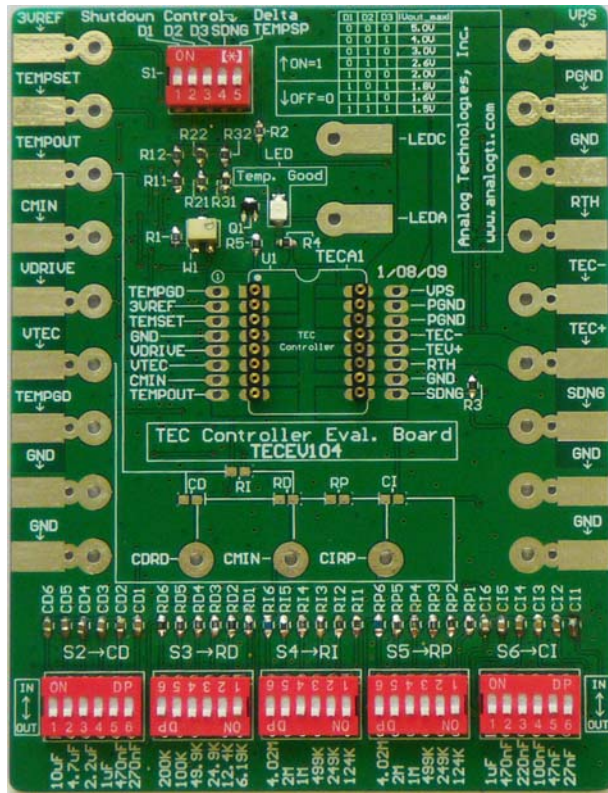
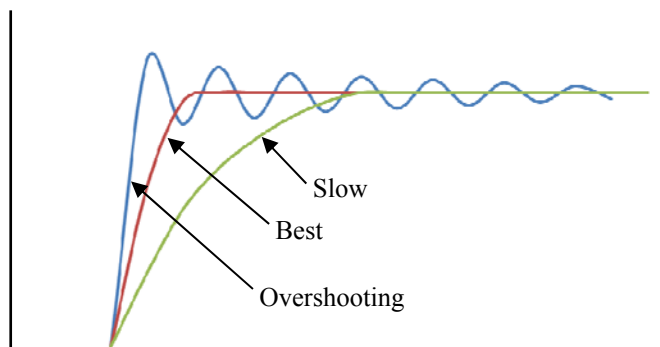
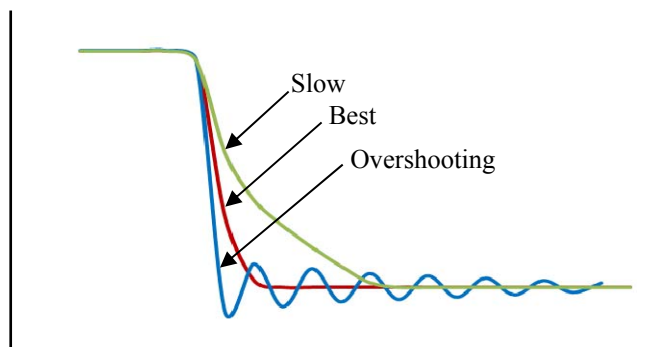

Figure 1. The Physical Photo of TECEV104
Figure 8. Rise Waveforms of VTEC
Figure 9. Fall Waveforms of VTEC
Its photo is shown in Figure 1. The TEC controller module is located in the center of the TECEV104 Evaluation Board. The voltages of all its pins can be measured directly by probing the vias on the left and right side of the module sockets which are connected directly with pins of the electronic module. Some of the pins are also connected to the soldering pads with two vias on the edges of the board. The names of all these nodes are marked on the board.
There are solder pads on the left and right edges of the board. These pads can be used for connecting the external instruments or components with and the connections can be made by soldering wires, clipping by alligator clips or probing by probes. See Figure 1, 2 and 3. There are solder pads also on the top and the lower side center of the board. These pads can be used for connecting the external instruments or components and the connections can be made by probing with probes or soldering wires.
1. Hook up the power supply, TEC and thermistor. There are 2 solder pads in the upper right area on the edge for connecting the DC power supply voltages in the right polarity as indicated onto the board. Usually the power supply is set to 5V. There are also 2 solder pads in the center right area on the edge for connecting the TEC terminals in the right polarity as indicated onto the board. Connect the thermistor terminals to the board, there is no polarity requirement. On the top of the board, there is the switch bank S1, the fifth switch Delta TEMPSP is used to adjust the compensation network of temperature control loop by inputting a square wave disturbing signal in temperature input point, which enables the system to generate corresponding response waveform. At this time, observe the waveform change by oscilloscope, and adjust and optimize the compensation network of the temperature control loop so as to achieve the best waveform at the same time. Response waveform is achieved by measuring VTEC with oscilloscope, as shown in Figure 8 and Figure 9. The compensation network components consist of  $R_I$ ,  $R_D$ ,  $R_P$ ,  $C_D$  and  $C_I$ , which will be adjusted by S2, S3, S4, S5 and S6. These connections can be done by clipping or soldering on the pads, see Figure 1. Check the evaluation board connections, making sure that they are all correctly connected.
- 6. Set output voltage limit. Turning switches  $D1$ ,  $D2$ , and  $D3$ , up and down will set the TECA1-5V-XV-D to different output voltage limit: 1.5V, 1.6V, 1.8V, 2.0V, 2.6V, 3.0V, 4.0V and 5.0V. See Figure 1, 2, 3 and 7.
- a. To know the actual target temperature, use a voltage meter to measure the voltage between the TEMPOUT and the GND pins, the reading result is: target temperature = 15°C + (TEMPOUT voltage (V))\*6.67°C for approximation (see the curve in the TEC controller data sheet).
- c. To try other values of capacitors not provided by the evaluation board for the capacitors in the compensation network, turn down the capacitor switches, to the "OUT" position, connect the component to the corresponding soldering pads as marked on the evaluation board, see Figure 1.
- d. To shut down the TEC controller, turn the Shutdown Control switch SDNG to the "Off" position, see Figure 1.